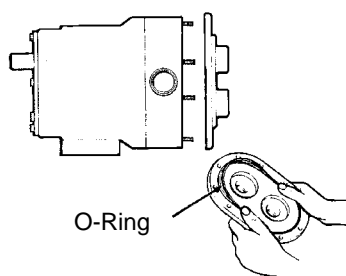

Figure 32 - Remove O-Ring
2. Remove the cover. If it is stuck, loosen it with a soft hammer. Remove and discard the cover o-ring (Figure 32).